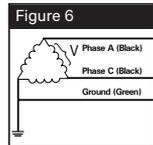

Figure 6
- 480C = 480V B Corner Grnd Delta, 3Ø 3W+Grnd (Fig 6)
- 600C = 600V B Corner Grnd Delta, 3Ø 3W+Grnd (Fig 6) (Available: 100kA)